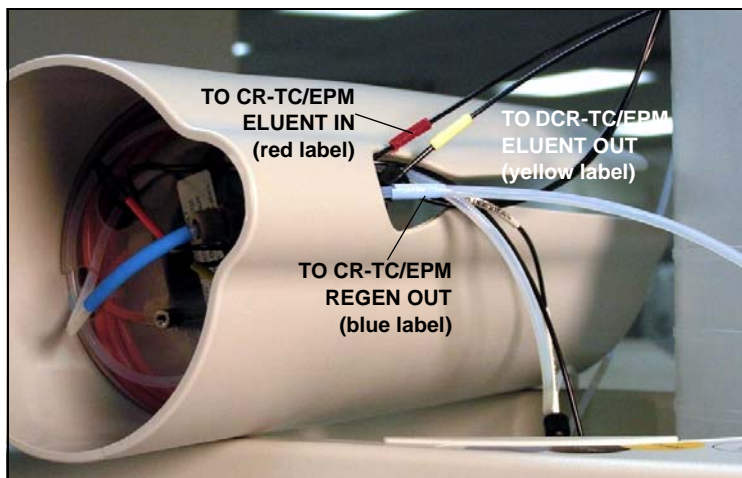

Figure 58. TO CR-TC/EPM Lines Outside of Holder
4. Thread the three extended lines (red, yellow, and blue labels) through the opening on the side of the holder (see Figure 58).